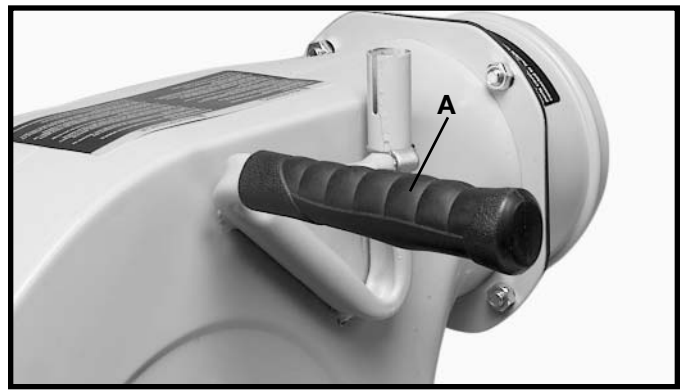

Fig. 29
1. The dust collector features a convenient carrying handle with rubber grip (A) Fig. 29, which allows the unit to be carried easily from one job area to another. **IMPORTANT: THE DUST COLLECTOR WEIGHS APPROXIMATELY 46 LBS. CARE SHOULD BE TAKEN WHEN LIFTING AND TRANSPORTING THE MACHINE.**